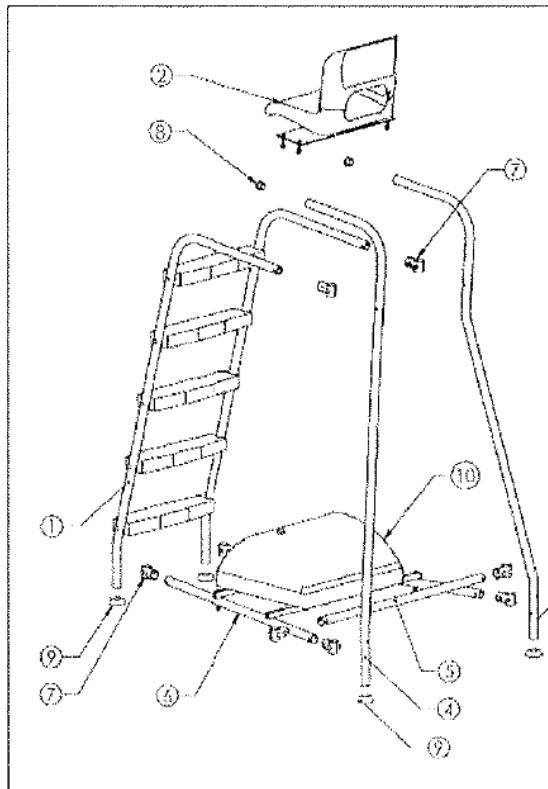

Figure 1
Step 3. Locate the Front Legs (#1). Orient them as shown in the picture. Secure them to the Rear Legs as shown in Figure 1.